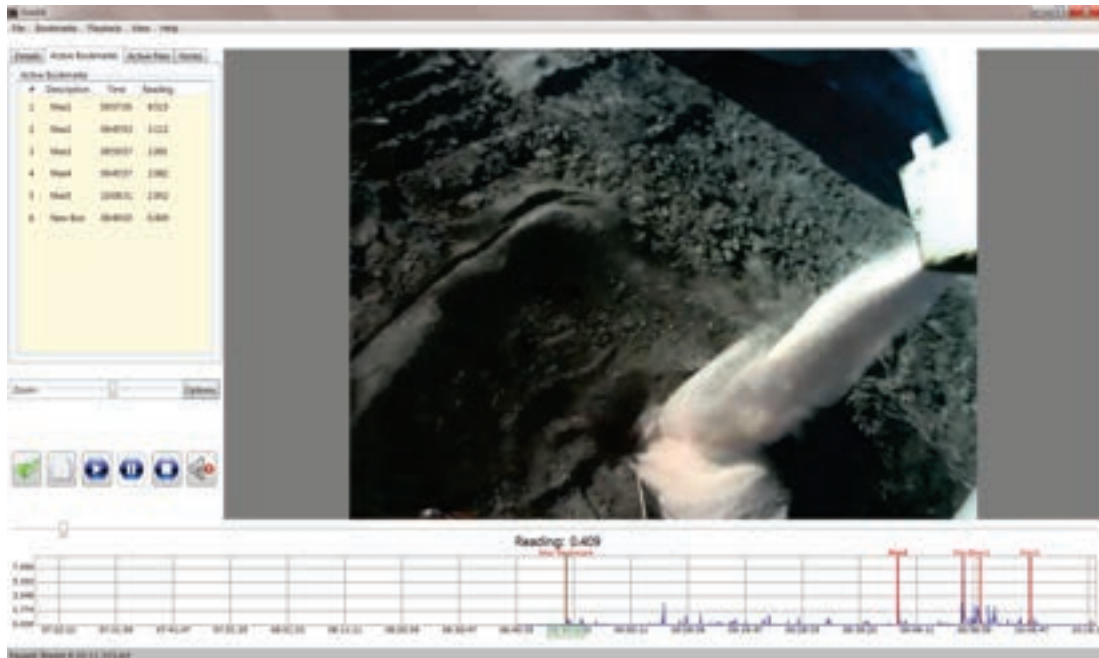

Figure 34. The “New Bookmark” added to the dust concentration graph. This bookmark is also shown on the Active Bookmarks tabs on the left.
For example, typing a description such as “*New Bookmark*” in the Description box and clicking **OK** will add a new bookmark at the location of the vertical green line (Figure 34) and label that location “*New Bookmark.*” It will also number the bookmark with the next consecutive number (shown as Bookmark # 6 in the Active Bookmarks tab in Figure 34).
- The new bookmark appears as the last bookmark in the tabs information area, which is displayed when the Active Bookmarks tab is selected (located in the upper left area of the window, as shown on Figure 34).